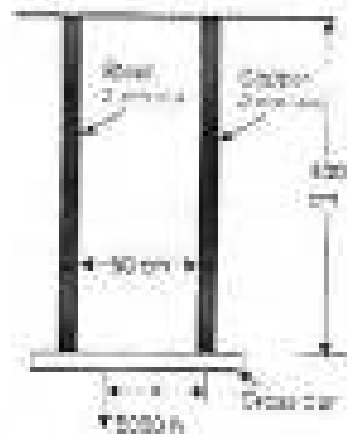

Fig. 1
- Q1) a) Two vertical rods one of steel and the other of copper are each rigidly fixed at the top and 50 cm apart as shown in Fig. 1. Diameters and lengths of each rod are 2 cm and 4 m respectively. A cross bar fixed to the rods at the lower ends carries a load of 5000 N such that the cross bar remains horizontal even after loading. Find the stress in each rod and the position of the load on the bar. Take E for steel $= 2 \times 10^5 \text{ N/mm}^2$ and E for copper $= 1 \times 10^5 \text{ N/mm}^2$. [12]